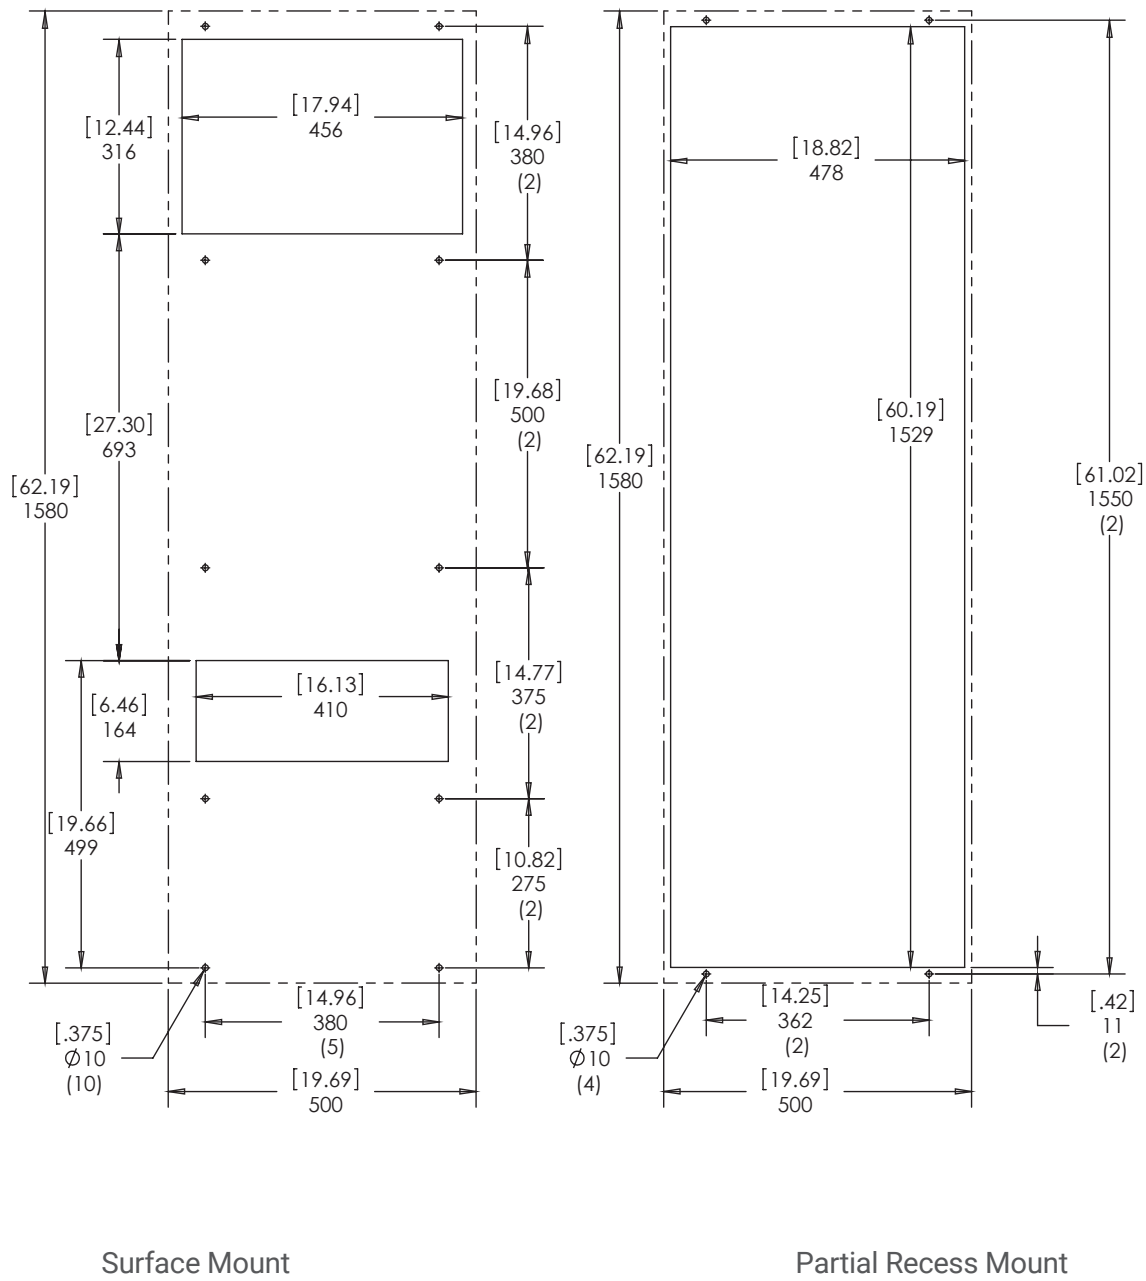

Figure 17
2. Using the cutout template provided with the unit, prepare the enclosure. See Figure 16 and Figure 17. The front of the unit requires a half meter clearance for proper airflow. Five centimeters is required on each side of the unit. To avoid condensate overflow, unit must be mounted within 3° of level.